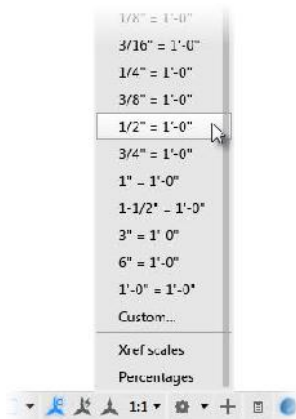

FIGURE 6.45: The Annotation Scale list
8. Change the annotation scale of your drawing by clicking the Scale drop-down on the status bar, and select 1/2" = 1'-0" from the list of scales, as shown in Figure 6.45.